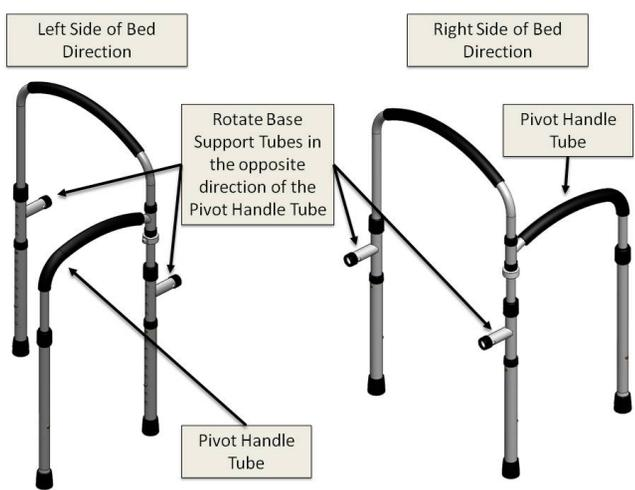

FIGURE 3
3. **IMPORTANT:** Position the product in the correct orientation based on which side of the bed you will be using this product as shown in Figure 3.